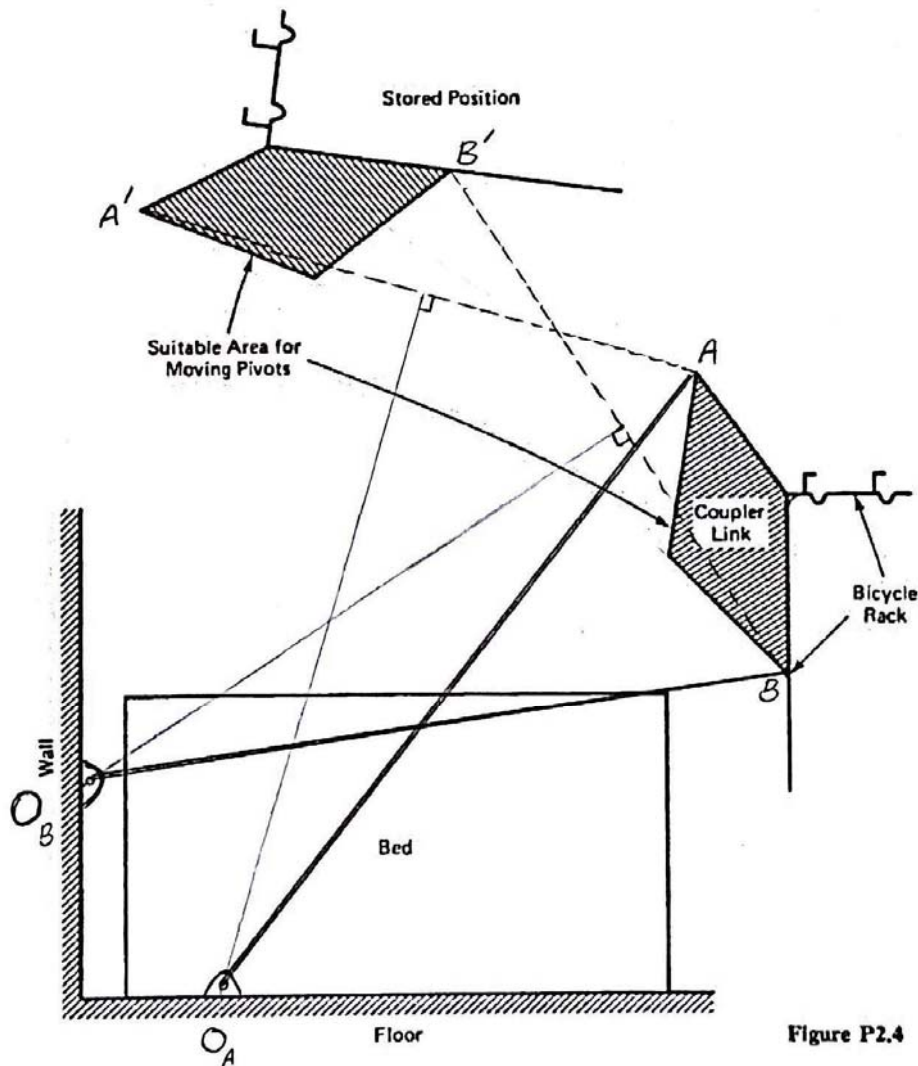

Figure P2.4
2.13. A student wishes to design a four-bar linkage that will store a bicycle above his bed. Two positions of the storage rack are shown in Fig. P2.4. Find acceptable ground and moving pivots for this design objective.